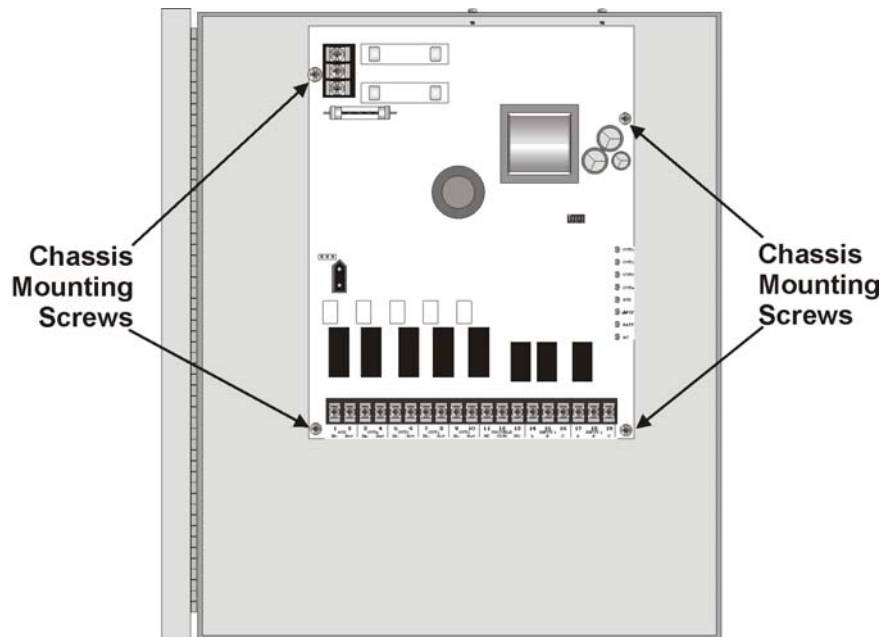

Figure 6-1 Mounting Screw Locations
1. Remove the two heat sink screws. The heat sink screws are located on the top of the cabinet. See Figure 6-1.
2. Remove the four chassis mounting screws. See Figure 6-1 for chassis screw locations.
1. Align the control panel with the chassis mounting stand-offs. See Figure 6-1.
2. Insert the four chassis mounting screws (see Figure 6-1). Do not over tighten the chassis mounting screws.
3. Insert the two heat sink screws (see Figure 6-1). Do not over tighten the heat sink screws.